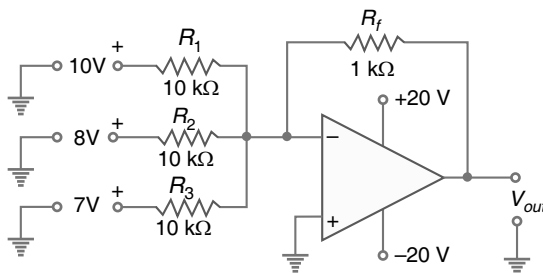

Fig. 23.74
**Example 23.46.** Determine the output voltage for the summing amplifier shown in Fig. 23.74.